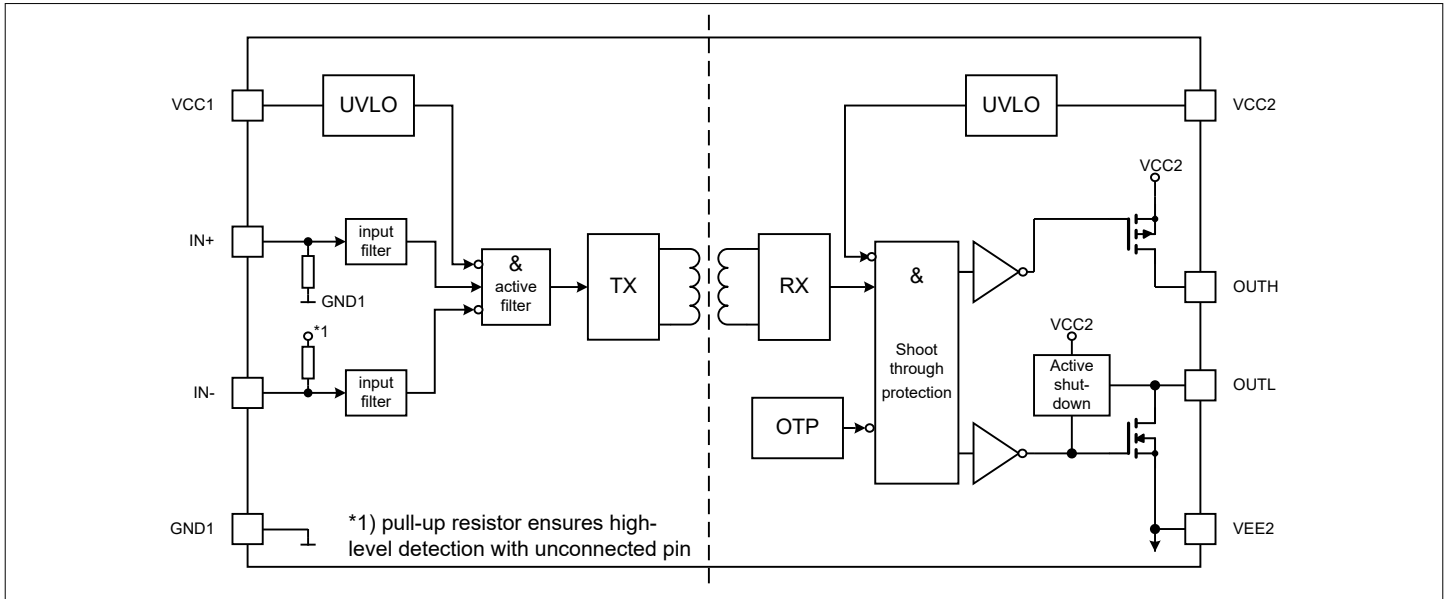

Figure 2 Block diagram for variants with separate sink and source pins (1ED3140, 1ED3141 and 1ED3142)
- **IN+**: Non-inverted control signal for driver output. An internal filter provides robustness against noise at **IN+**. If left open, an internal, weak pull-down resistor pulls this pin to a low state, as shown in Figure 2
- **IN-**: Inverted control signal for driver output. An internal filter provides robustness against noise at **IN-**. If left open, an internal, weak pull-up resistor pulls this pin to a high state, as shown in Figure 2